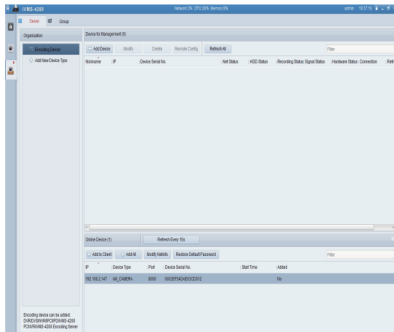

Figure 1 Device manage interface
Step 1 Double click the Client icon, click "Refresh (auto refresh every 15 seconds)" on the device management interface, you can see all device IP addresses, see Figure 1.